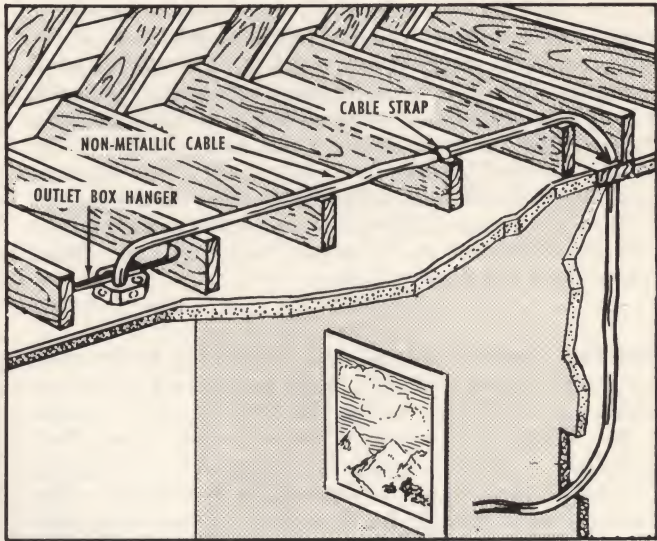
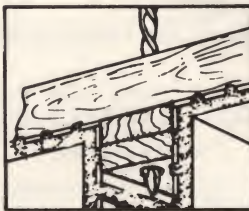

FIG. 58—RUNNING CABLE THROUGH ATTIC
FIG. 60
**CABLE IN ATTIC.** In wiring single-story houses or on the second floor of two-story houses, cable can be run through attic, if it is accessible (Fig. 58). Boards of rough attic floor can be lifted and holes drilled through wooden members, as in Fig. 60.